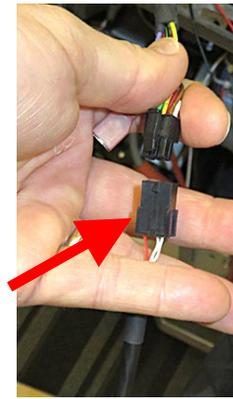

Figure 17
23. Attach the 6-pin male end of the new OQS harness to the adaptor cable (see Figure 17).